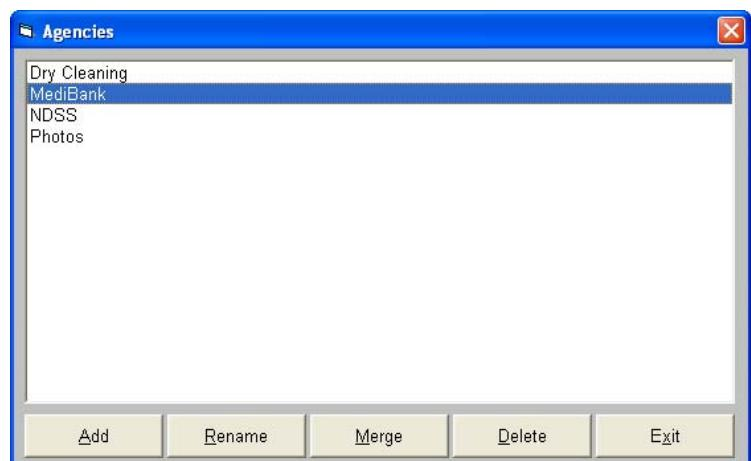

Figure 59
2. From the 'Agencies' screen, highlight the agency you wish to delete (Figure 59).